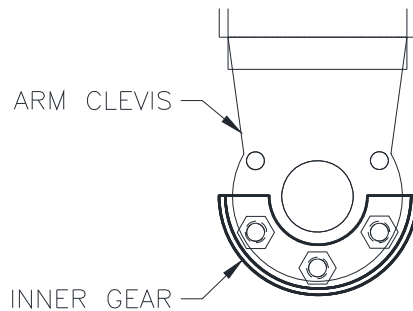

Fig 20 – Symmetric Inner Gear
37) For Asymmetric installation, skip to step 39. Ensure the Inner Gear is positioned on the arms as shown in Fig 20. Lubricate the Arm Pin or carriage arm pin hole with “anti-seize” and install the arms. Place snap ring in groove on bottom of arm pin. Ensure that the arm restraint gears engage and disengage properly. Arm restraint gears should disengage completely when lift is fully lowered. When gears are engaged, Outer Gear should lower enough for top of teeth to be level with top of Inner Gear teeth. If any binding occurs, adjust Inner Gear as necessary.